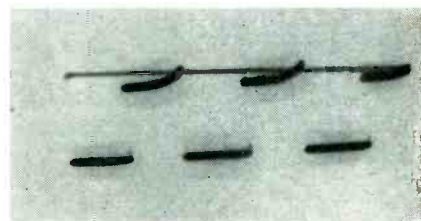

Fig. 5—Vertical waveform is relatively invisible as shown above.
**A.** A typical situation of this kind is illustrated in Fig. 5. The invisibility of